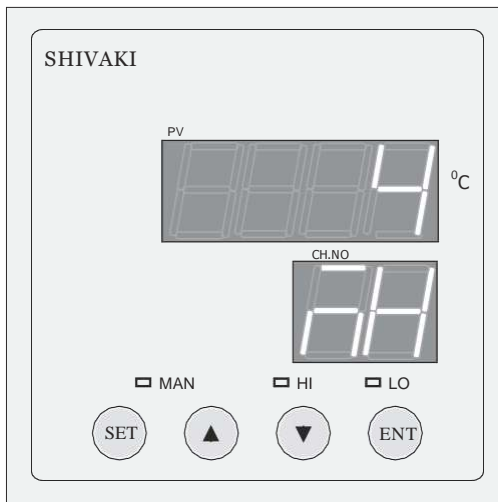

Fig. 1.6.4
Then the top display (PV) shows the preset Month. The bottom display shows the parameter “mH”. Use the  $\Delta$  &  $\nabla$  keys to set the desired digit value (MONTH). Range: 1 to 12. Press ENT key. Refer Fig. 1.6.4